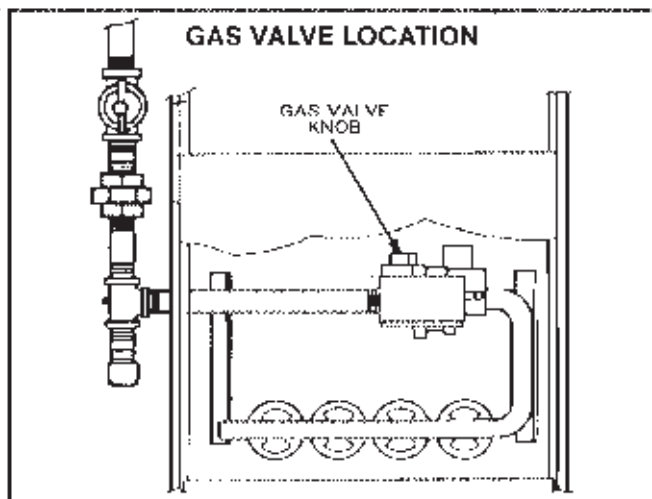

FIGURE 5
- 5- Push in gas valve knob slightly and turn clockwise  to OFF. See figure 5.